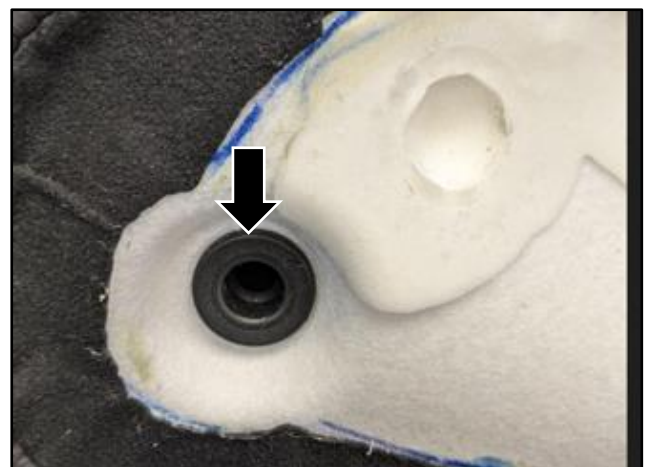

Figure 5
4. If a rubber bush socket is removed it must be installed to the seat pad again (refer to Figure 5).